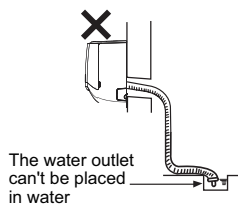

Fig.27
(3) The water outlet can't be placed in water in order to drain smoothly.(As show in Fig.27)